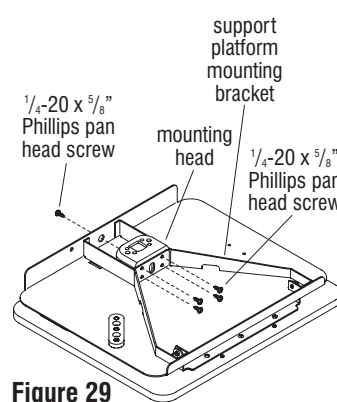

Figure 29
3. At the back, non-user side of the worktop support platform, align the back mounting hole on the mounting head with the mounting hole on the support mounting bracket and secure using one 1/4-20 x 5/8 inch Phillips pan head screw (Figure 29 & Detail N2).
4. At the user side of the worktop support platform, secure the support mounting bracket to the mounting head using four 1/4-20 x 5/8 inch Phillips pan head screws (Figure 29 & Detail N2).